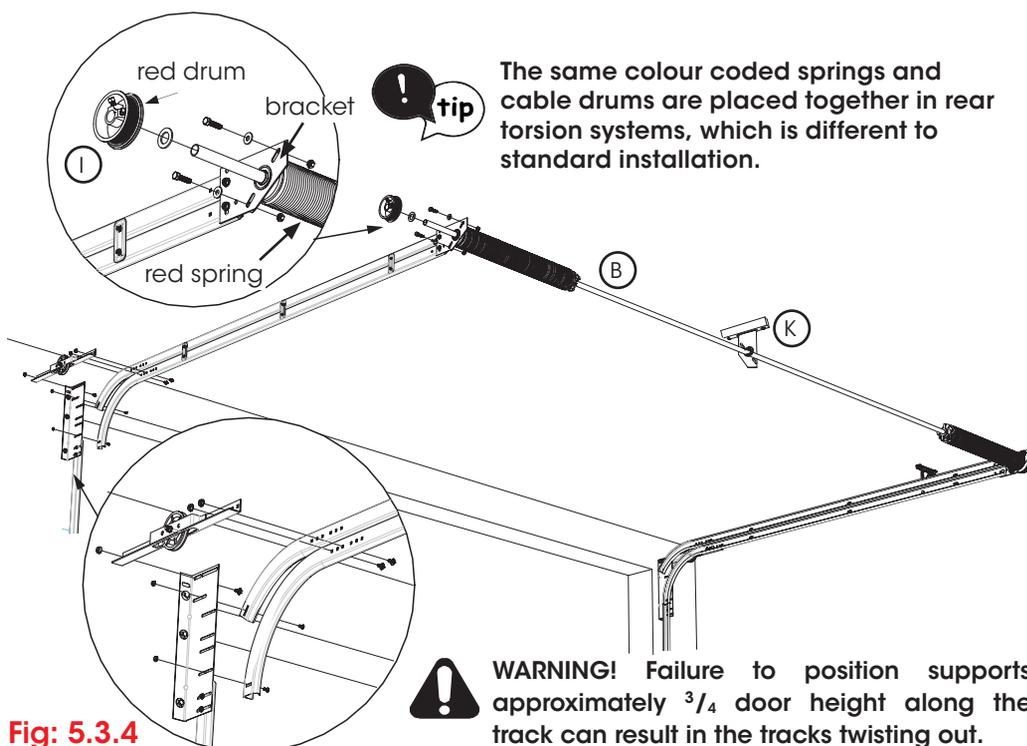

Fig: 5.3.4
Assemble the track, with cable pulley as shown in Figure 5.3.4. The curve must align and butt up against the vertical track snugly.
- h) Connect the side bearing brackets to the end of the horizontal tracks using $\frac{3}{8}$ " and $1\frac{1}{2}$ " hexagonal head bolts and $\frac{3}{8}$ " washers and nuts. Fig 5.3.4.
- i) Slide the torsion bar (B) of the torsion assembly through one side bearing bracket and then the other.
- k) Secure the spring anchor bracket (K) firmly into a solid foundation directly or through the use of a steel angle to timber beams onto the ceiling, ensuring the 'cut corner' is pointing in the direction of the opened door.